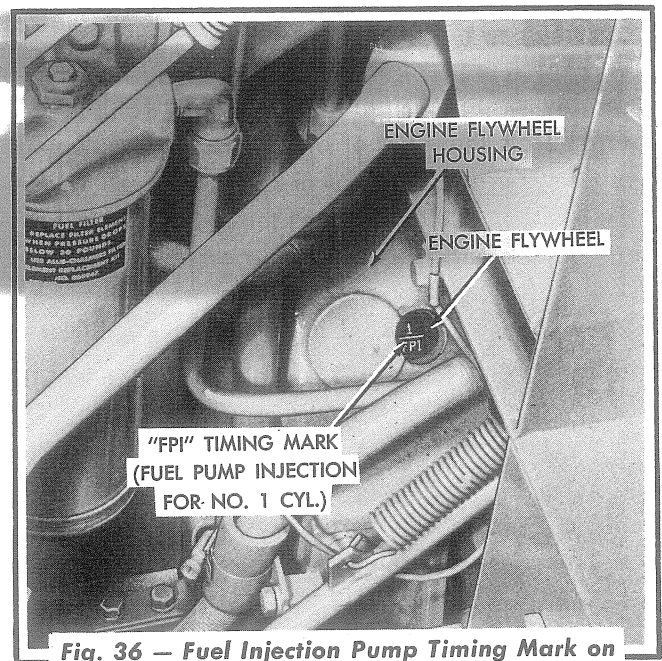
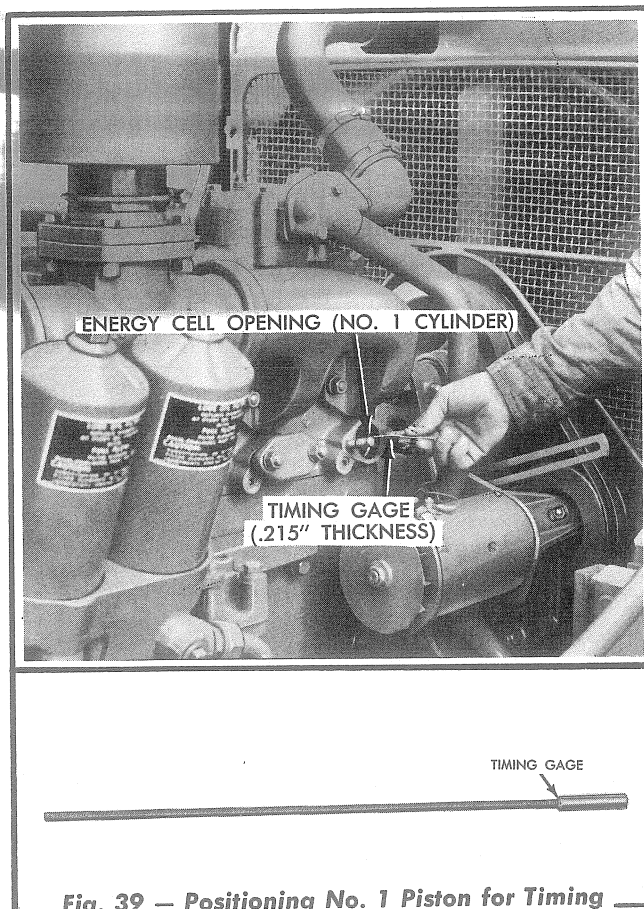

Fig. 36 — Fuel Injection Pump Timing Mark on Engine Flywheel (Effective with Engine Serial No. 67395)
Fig. 39 — Positioning No. 1 Piston for Timing Fuel Injection Pump to Engine (Tractors Prior to Serial No. 4001)
- b. Effective with engine Serial No. 67395 an "FPI" mark was stamped in the engine flywheel and a timing hole plug was provided in the flywheel housing. On engines Serial No. 67395 and above, remove the timing hole plug (Fig. 36) from the upper left side of the engine flywheel housing.
Effective with engine Serial No. 67395 an "FPI" timing mark is stamped in the engine flywheel (Fig. 36). With the timing mark centered in the timing hole in the flywheel housing and the No. 1 piston near the top on its compression stroke, the engine timing gear train is properly positioned for the installation of the fuel injection pump. On engines prior to Serial No. 67395 an "FPI" timing mark is not stamped in the engine flywheel and the .215" thickness timing gage (Fig. 39), included with the tractor tools, must be used to properly position the No. 1 piston for installation of the fuel injection pump. *NOTE: To assure accurate positioning of the No. 1 piston, it is recommended that a timing gage be used on all tractors prior to tractor Serial No. 4001.* The timing gage is to be inserted through the energy cell opening in the cylinder head and positioned between the top of the No. 1 piston and the bottom flat surface of the cylinder head, when the piston is near the top on its compression stroke. This can be determined by observing the valves for the No. 1 cylinder; with both valves closed (valve push rods at the bottom of their travel) the piston is nearing the top of its compression stroke. Insert the timing gage as follows:
- d. With the No. 1 piston near the top on its compression stroke, insert the end of the timing gage (.215" thickness) into the energy cell opening as shown in Fig. 39, making certain that the gage is located below the flat surface of the cylinder head and above the piston.
Before installing the fuel injection pump, make certain that the "FPI" timing mark (Fig. 36), stamped in the engine flywheel is centered with the timing hole in the flywheel housing. Also, make certain that the No. 1 piston (piston nearest fan) is on its compression stroke when centering the "FPI" mark with the timing hole. This can be determined by observing the valves for the No. 1 cylinder; with the exhaust and the intake valves closed (valve push rods at the bottom of their travel), the piston is nearing the top on its compression stroke.